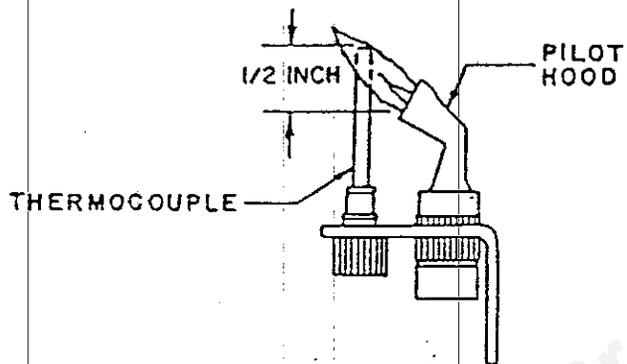

FIGURE 3
3. Visually check the burner and pilot flame before each heating season. (See Figures 3 & 4 for details.) Remove the burner if required to clean rust and foreign matter from the slots and obstructions such as cob webs and mud daubers from the venturi opening. Brush the surface of the burner head to clean the burner ports. Use a bottle brush or equivalent to clean the venturi.